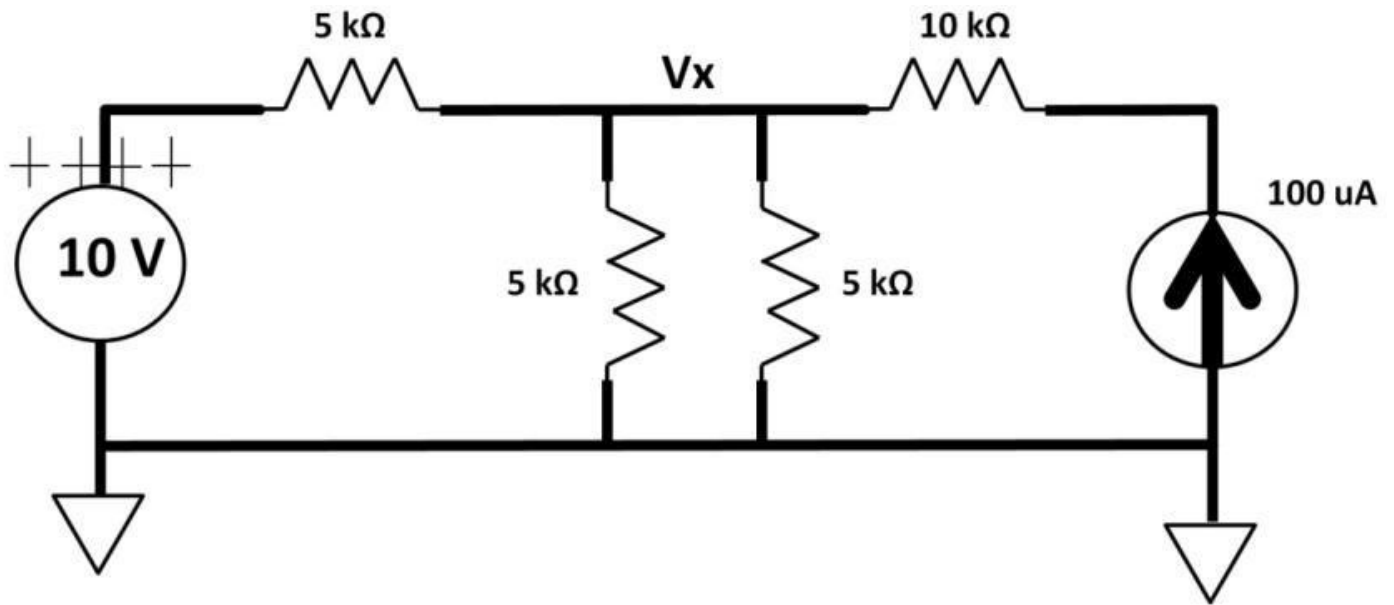

Figure 1.40: Superposition, voltage, current sources
8) Use superposition to find V_x . Show steps (see figure 1.40).